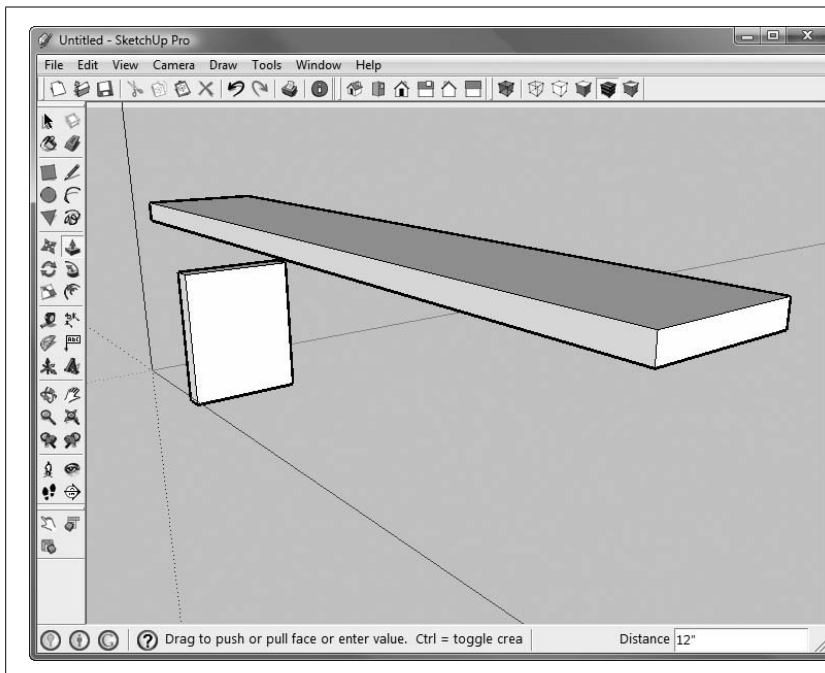

Figure 1-19:
You see a 3-D view of the drawing area, which makes it easier to turn your rectangle into a board in the next few steps (Figure 1-19). If necessary, use the Zoom (Z) and Pan (H) tools to get a good view of your bench leg.
6. With the Push/Pull (P) tool, click and push the face toward the upper-left corner of the drawing area.